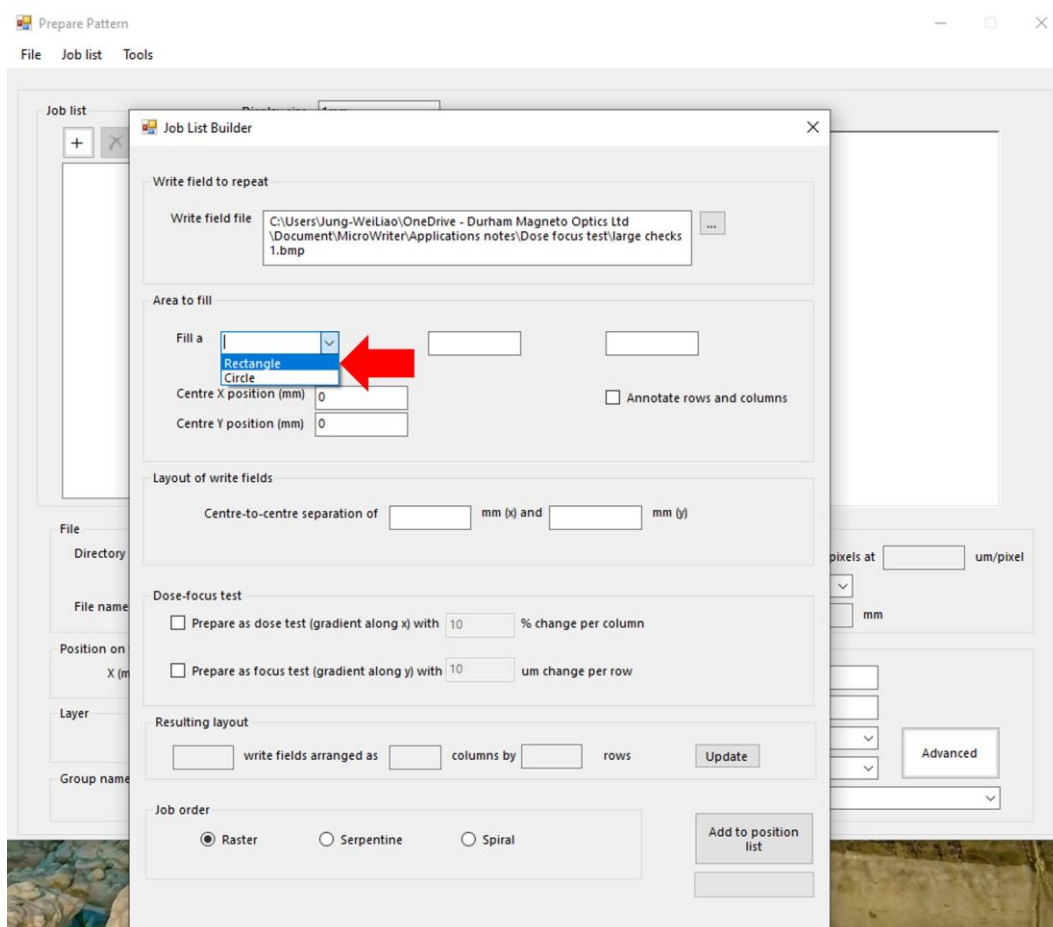

Figure 4 Select the “Rectangle” option in the “Fill a” dropdown menu.
- e. Select “Rectangle” in the “Fill a” dropdown menu (Figure 4).